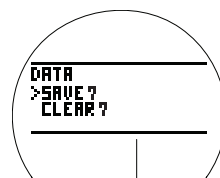

Fig. 139 - SELECT ITEM
- > During 24 hours after completion of a dive, the graphic DATA with selections SAVE ? and CLEAR ? will be displayed (Fig. 139) giving you the option to retain or delete settings and Ni-O2 calculations for repetitive dives.